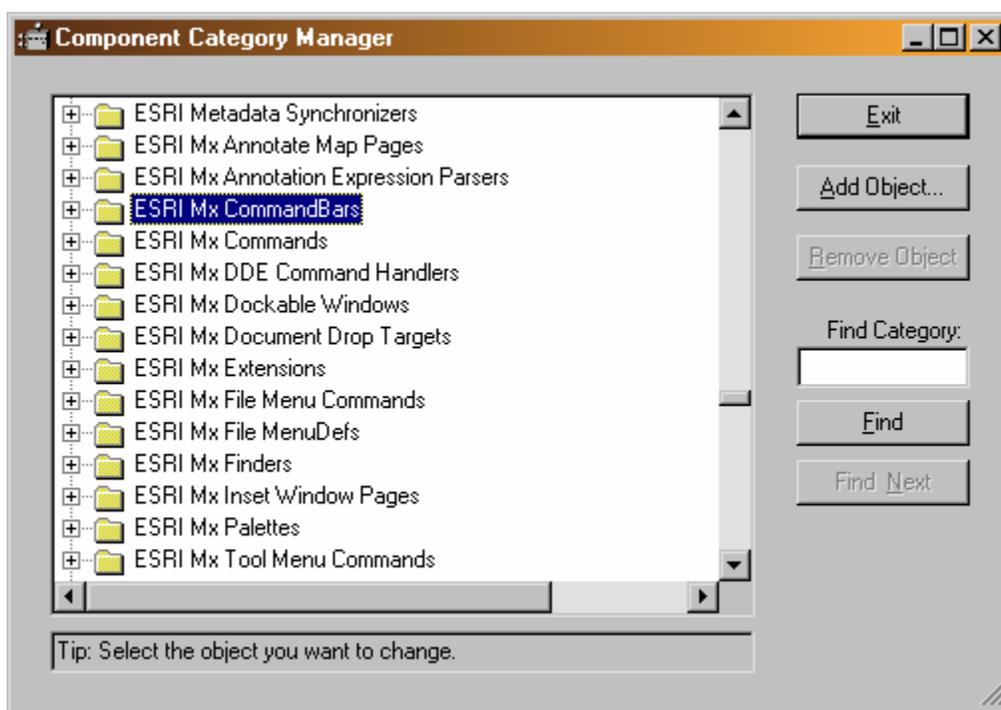

Figure 23: The Component Category Manager Application for registering CULSED components
- Run the ESRI program called Component Category Manager. It can be found in \arcgis\arcexe82\Bin\categories.exe. A screen capture of this program is seen in Figure 23.